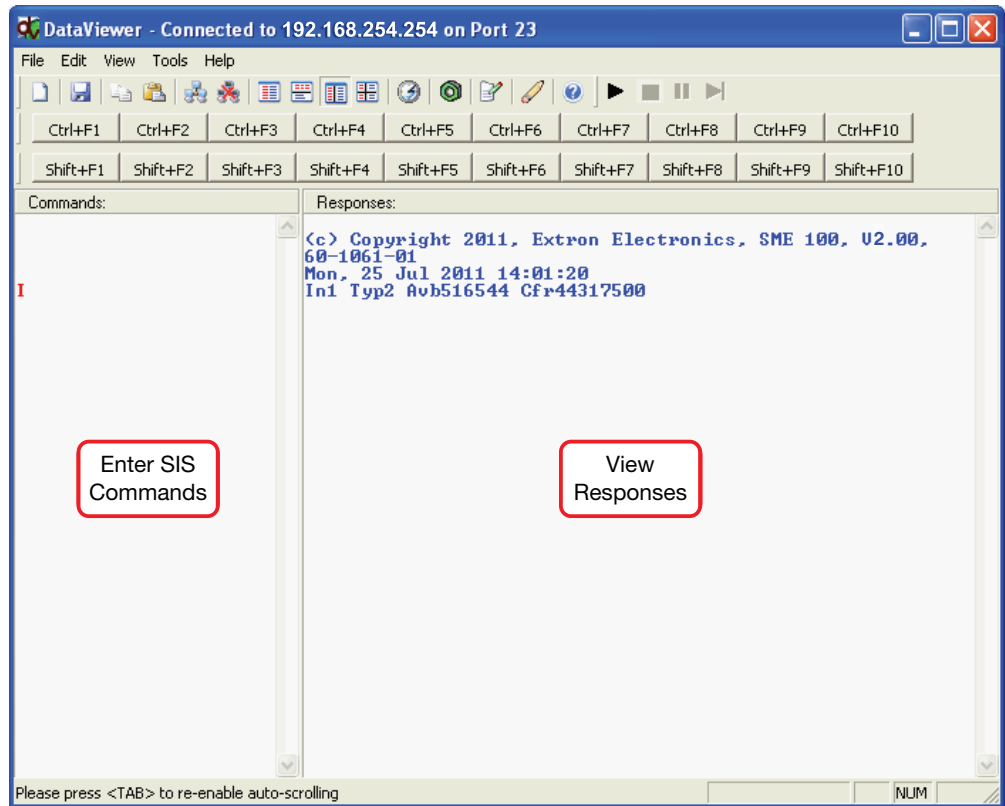

Figure 95. DataViewer Connected; SIS Command and Response Example
- The main DataViewer window appears. Use the **Commands** field to enter SIS commands and view the responses in the **Responses** field (see figure 95, below).
4. The main DataViewer window appears. Use the **Commands** field to enter SIS commands and view the responses in the **Responses** field (see figure 95 on page 120).